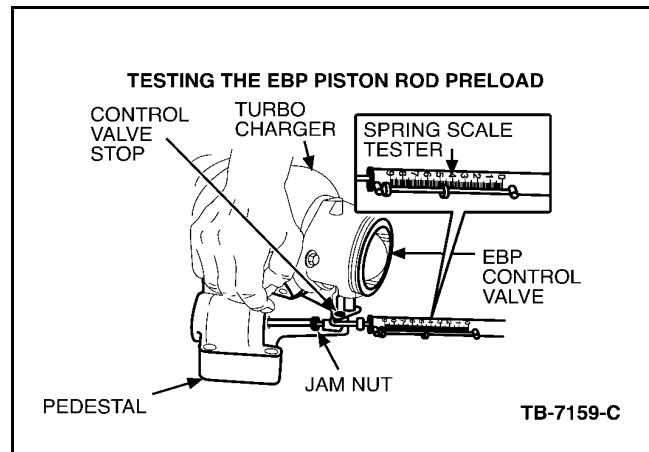

Figure 4 - Article 04-20-2
- c. Attach a spring scale tester to the control arm and pull on the tester (Figure 4).